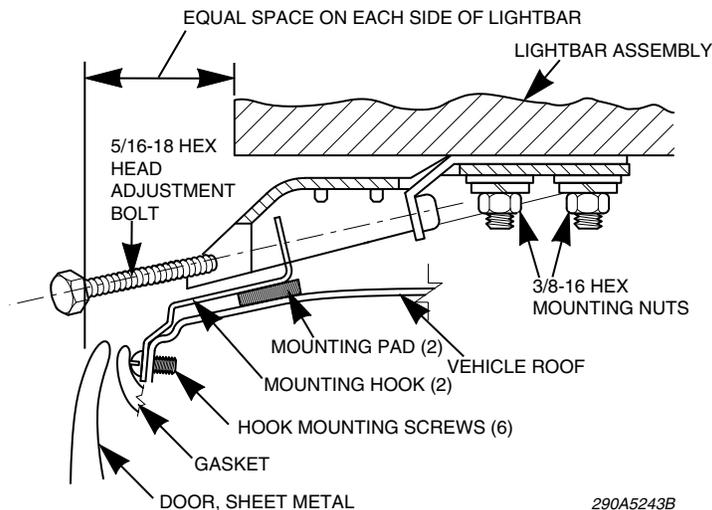

Figure 1: Lightbar attached to vehicle with hook kit
2. Determine where the hook will attach to the vehicle (Figure 1).
3. Slide the door gutter gasket off the roof sheet metal just enough to place the hook in position. Place the hook in position on the roof sheet metal as shown in Figure 1.
1. To protect the roof surface, peel the packing from the adhesive mounting pad and attach the pad to the bottom of the hook (Figure 1 on page 2).
2. Secure the hook using three sheet metal screws provided (#10 thread-forming) as shown in Figure 1.